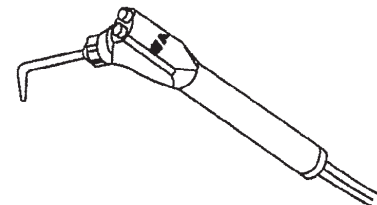

Fig.4-3 H.V.E. and S.E. Handpiece
3. Belmont 77 Syringe (Fig.4-3)